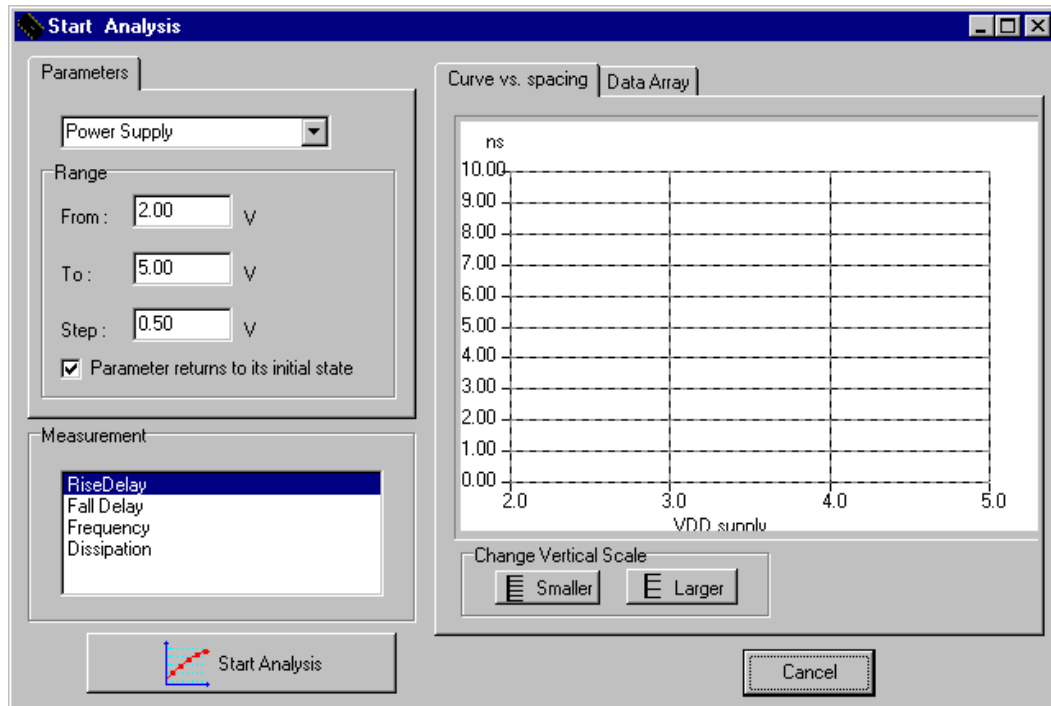

Fig. 12. The parametric analyzer
- p** Click on « Start Analysis ». An iterative procedure conducts simulations and extracts the delay from the simulation for each value of VDD power supply as defined in the « Range » menu. The result in Fig. 12 shows that the gate delay decreases rapidly with the power supply.